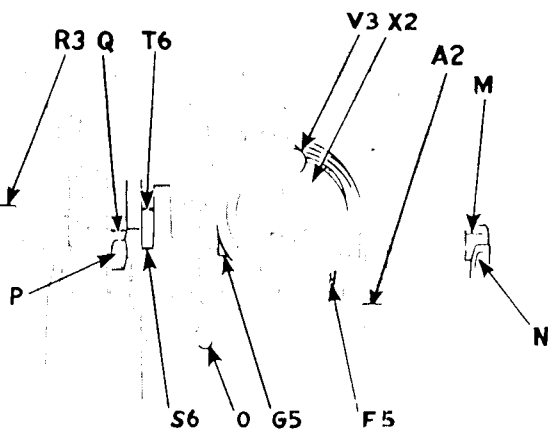

Fig. 11. Bottom View of Machine Showing Oiling Points
To reach the oiling points in the machine bed (not reached through oil holes at the top of the machine bed) loosen the wing nut **O**, **Fig. 9** and lay the machine back, to the left, as shown in **Fig. 11**.
Apply a drop or two of oil to the oiling points indicated by arrows in **Fig. 11**, as instructed on next page.
**M.** Where the rear hub turns in the trunnion **N** when the machine is turned back as shown in Fig. 11.
**Q.** Where the front hub turns in the trunnion **P** when the machine is turned back as shown in Fig. 11.